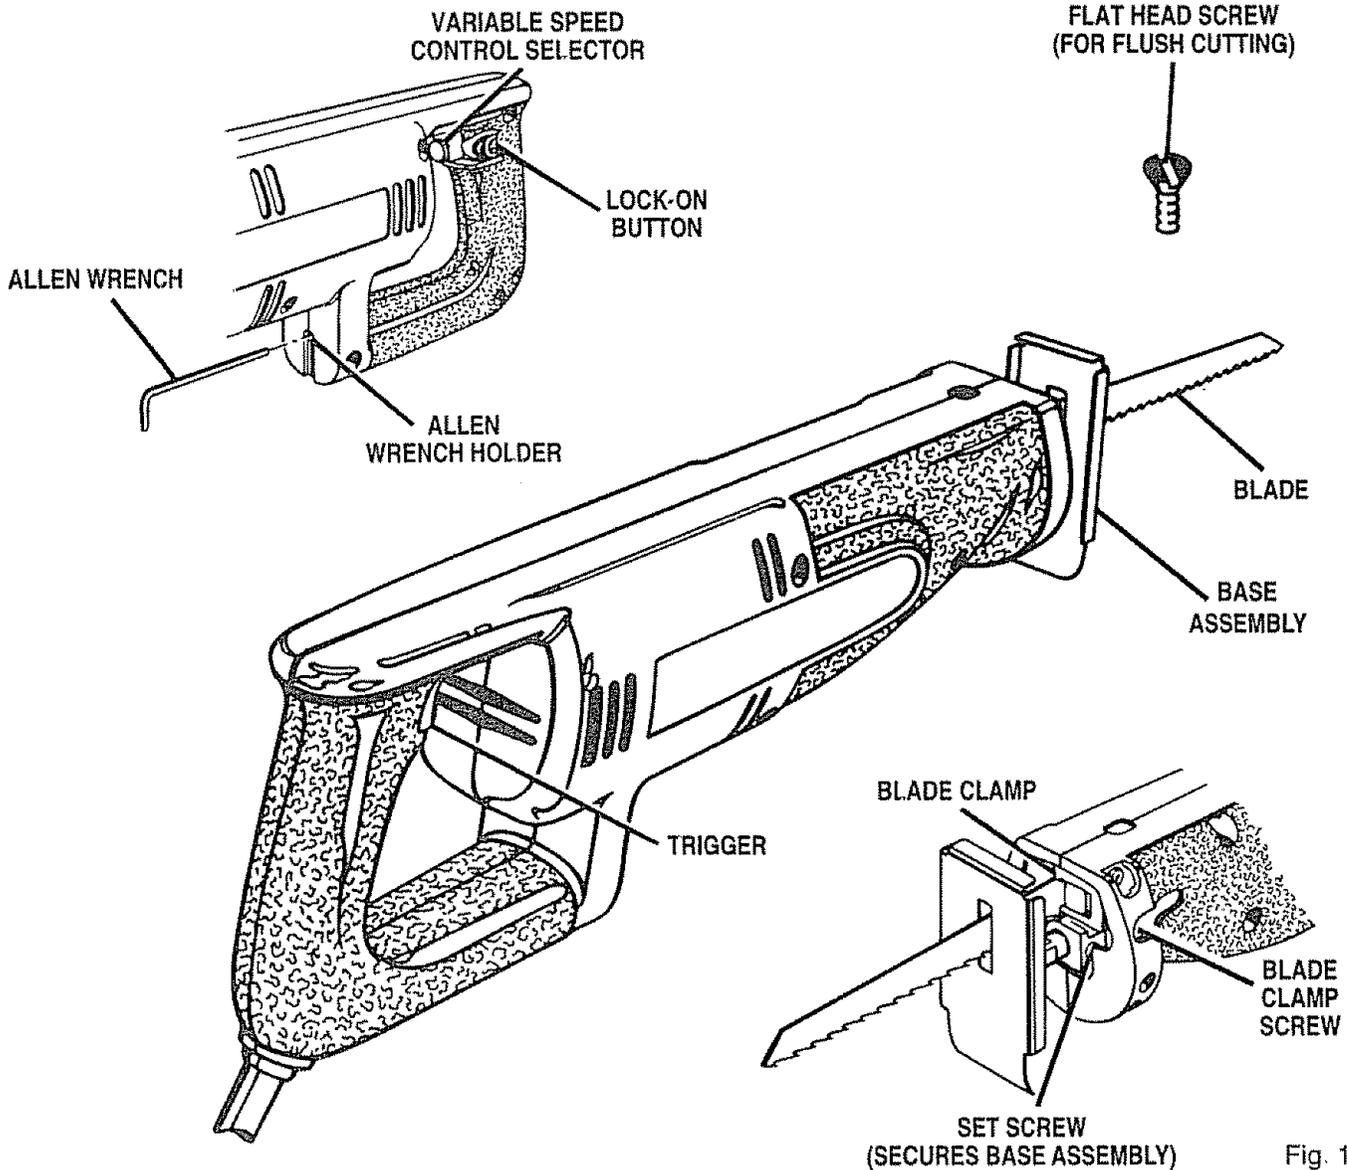

Fig. 1
See Figure 1.
- Remove the 5/32 in. allen wrench provided with this saw from allen wrench holder. **NOTE:** Allen wrench holder is located in bottom portion of saw handle. See Figure 1.